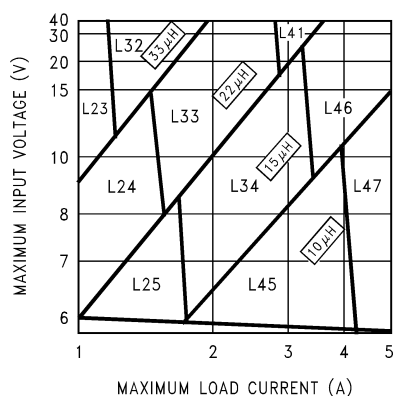
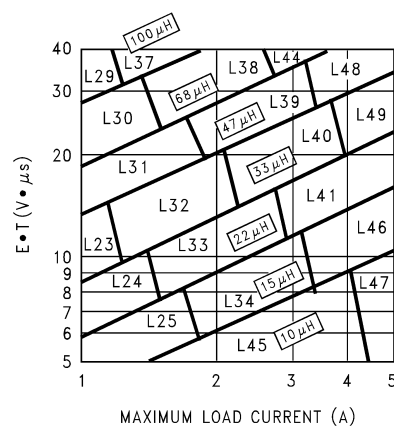

Figure 21. LM2678-3.3
Figure 24. LM2678-ADJ
Step 3: Determine the inductor required by using one of the four nomographs, Figure 21 through Figure 24. Table 1 provides a specific manufacturer and part number for the inductor.
Step 5: Determine an input capacitor from Table 6 for fixed output voltage applications. Use Table 3 to find the specific capacitor type. For adjustable output circuits select a capacitor from Table 3 with a sufficient working voltage (WV) rating greater than $V_{in\ max}$, and an rms current rating greater than one-half the maximum load current (2 or more capacitors in parallel may be required).
Step 3: Use the nomograph for the 3.3V device, Figure 21. The intersection of the 16V horizontal line ($V_{in\ max}$) and the 4A vertical line ($I_{load\ max}$) indicates that L46, a 15 μH inductor, is required.
Step 3: To use the nomograph for the adjustable device, Figure 24, requires a calculation of the inductor Volt•microsecond constant ($E \cdot T$ expressed in $V \cdot \mu s$) from the following formula:
Using Figure 24, the intersection of $27V \cdot \mu s$ horizontally and the $3.5A$ vertical line ($I_{load} \max$) indicates that L48, a $47\mu H$ inductor, or L49, a $33\mu H$ inductor could be used. Either inductor will be suitable, but for this example selecting the larger inductance will result in lower ripple current.
When using the adjustable device in low voltage applications (less than $3V$ output), if the nomograph, Figure 24, selects an inductance of $22\mu H$ or less, Table 12 and Table 13 do not provide an output capacitor solution. With these conditions the number of output capacitors required for stable operation becomes impractical. It is recommended to use either a $33\mu H$ or $47\mu H$ inductor and the output capacitors from Table 12 and Table 13.